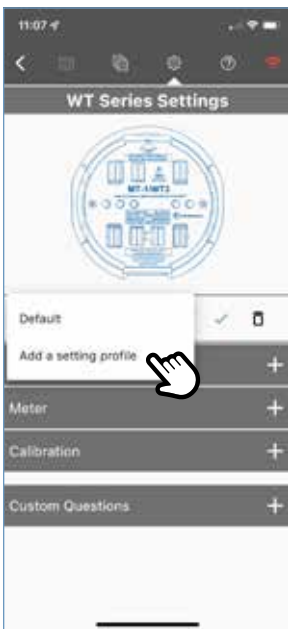

Figure 1
**Create a profile:** Click the dropdown menu and select "Add a setting profile", input a relevant name and click done, the profile will be created with all the fields current values (Figure 1).